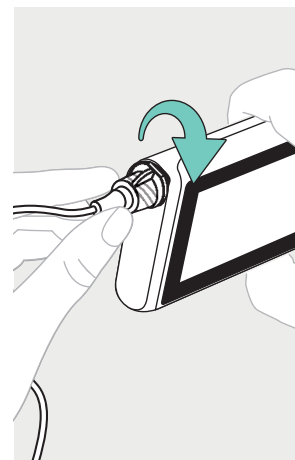

Figure 64
- c. Once the Luer adapter is touching the iLet device, quarter turn the Luer adapter to the right (see Figure 64).